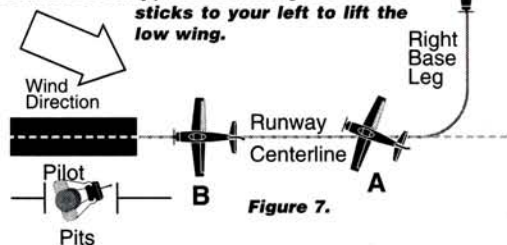

Figure 7.
• If the plane's right wing starts to drop, you'll need to momentarily move the sticks to your left to lift the low wing (see Figure 7, plane A).
- If the nose is pointing toward the pits, take out a little left rudder—*move the rudder stick to your right* (see Figure 7, plane B).